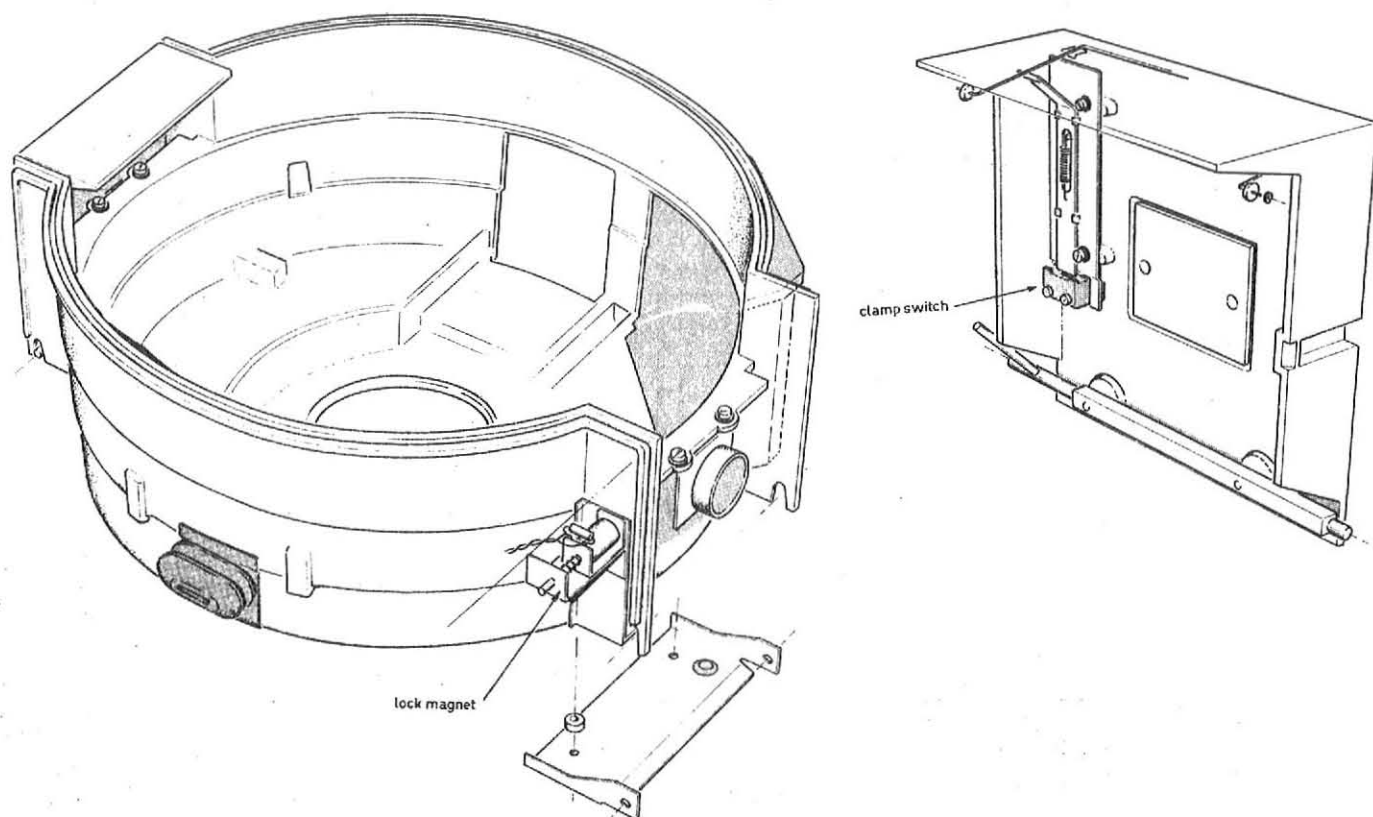

Figure 7-30
5.3 LOCK MAGNET (figure 7-30)
5.4 CLAMP SWITCHES (figure 7-30)